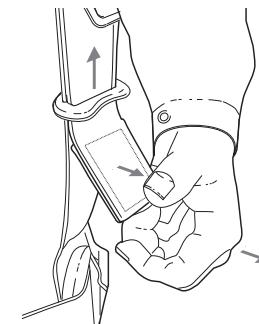

Fig. 21 Releasing the strap retainers
9. Lift the shoulder harness ends to release the strap retainers (Fig. 21) and then lift the shoulder strap buckles to loosen the straps.